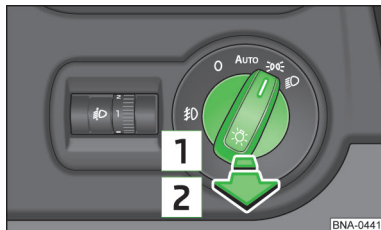

Fig. 31
- ✓ The lights switch is in position **AUTO**, \rightarrow or \rightarrow » **fig. 31**.